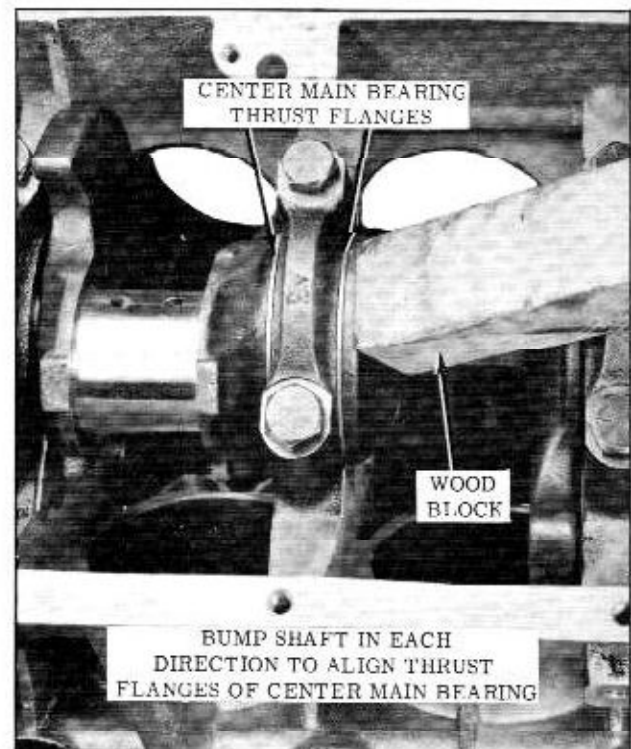

Fig. 8-44 Aligning Center Main Bearing Flanges
4. With a block of wood (Fig. 8-44) bump shaft in each direction to align thrust flanges of center main bearing.